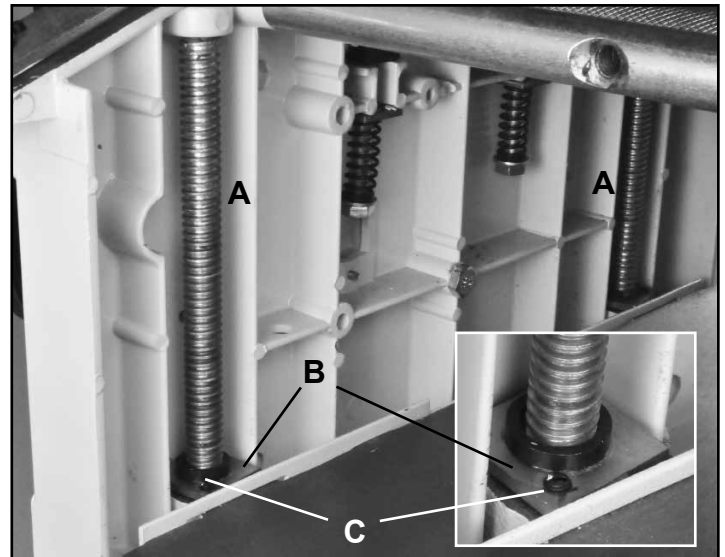

FIG. 24
1. The planer table is attached to the cabinet and moves vertically by four Threaded Spindles, or posts (#131, FIG. 24, A). At the base of the spindles, there are positioning Plates (#141, B). Next to the spindle ends, there are four Set Screws (#140, C) that can be adjusted to slightly raise or lower an end of the planer table so that it will be parallel with the cutterhead.